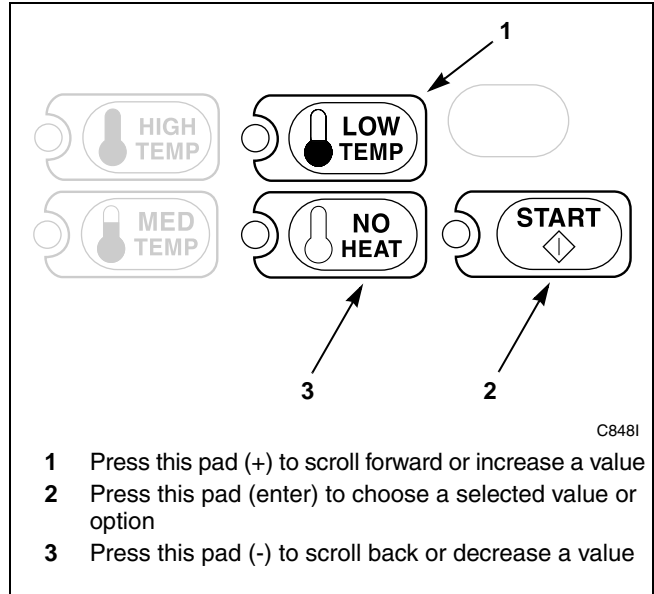

Figure 38
6. Press the LOW TEMP (+) or the NO HEAT (-) keypad to increase or decrease the current number until correct. Refer to *Figure 38*.